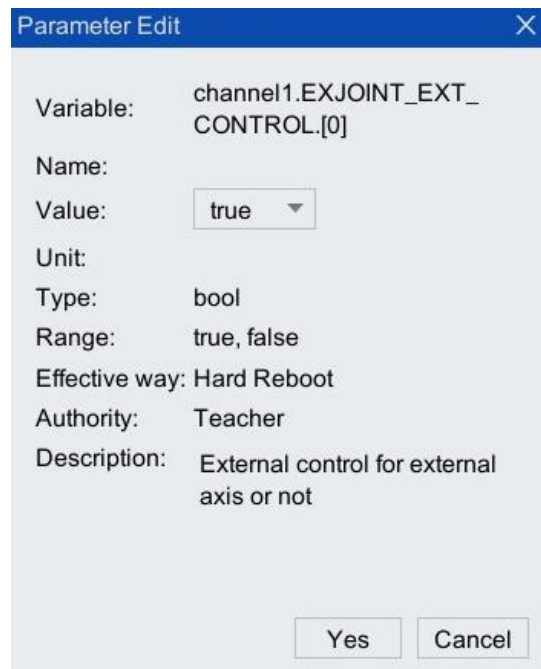

Figure 6-14 Whether to use external control dialog box for external axis
Step2. If you need to modify the configuration, click to select the row of the [0] sub-item in the [EXJOINT_EXT_CONTROL] parameter, click the <Edit> button, and a dialog box will pop up as shown in Figure 6-14. The parameters in [Value] can be modified. The parameter description is shown in Table 6-6.